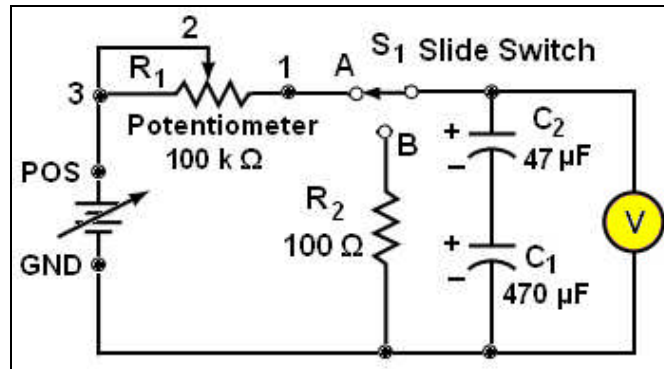

Fig. 2-3 Capacitors in Series
9. Now connect the 47 μF capacitor (C_2) in series with C_1 (Fig. 2-3). Switch S_1 to the B position so that the capacitors completely discharge.